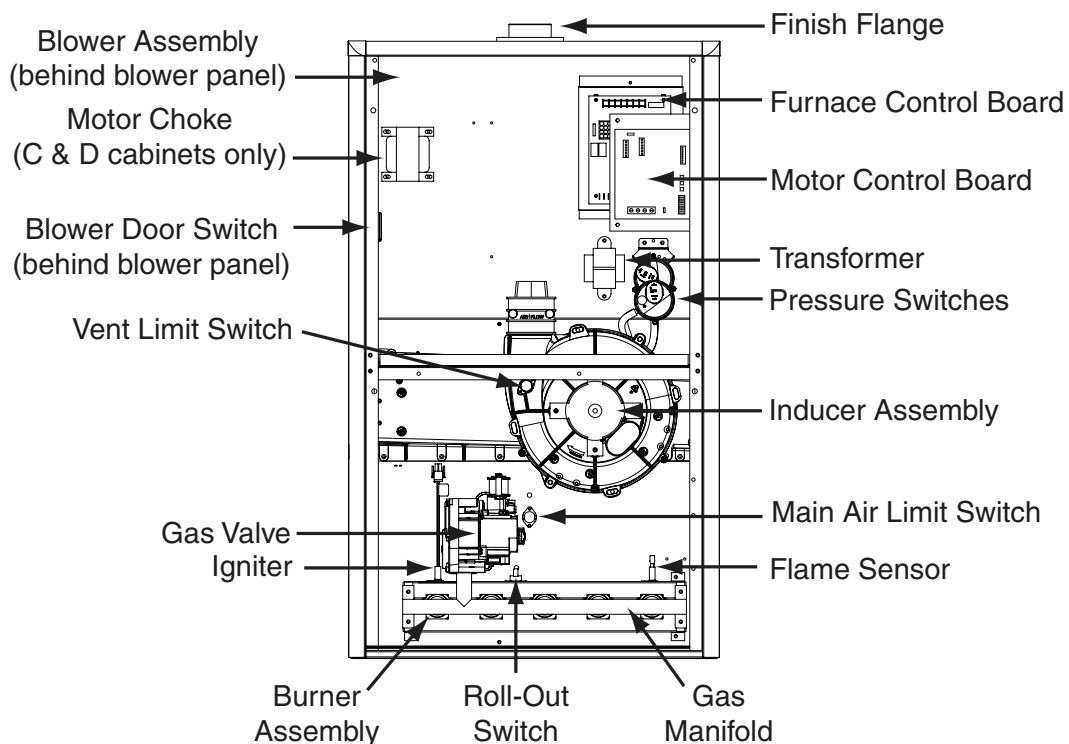

Figure 39. Component Locations
- If the Inducer Blower is operating, and items above have been verified, check the Blower Limit Switch and reset if necessary. See Figure 39 \(page 44\).
- If the furnace still doesn't operate, check the Flame Roll-out Switches (Figure 39) and reset if necessary.
The descriptions below are various functional components that affect the operation and shutting down of this furnace. Some of these components and their locations are shown in Figure 39 \(page 44\). If any component of the furnace must be replaced, use only factory authorized replacement parts specified in the Replacement Parts List provided online.